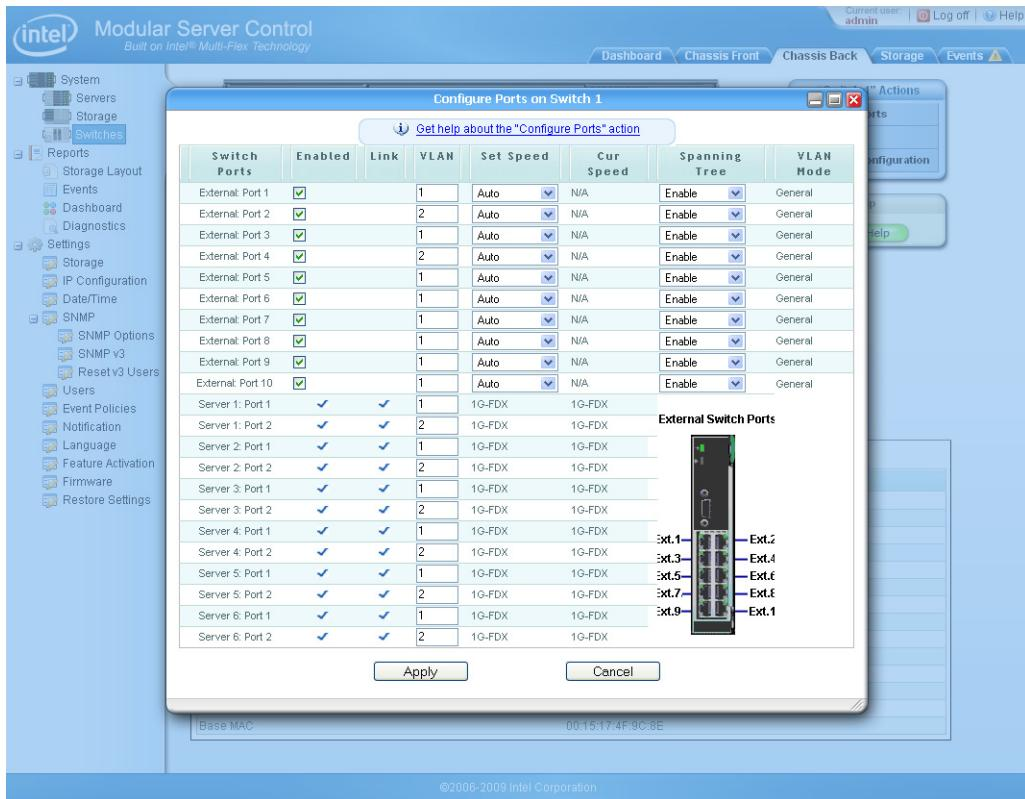

Figure 60. Configure Ports Dialog Box
- The Configure Ports action menu item enables an IT administrator to quickly and easily modify port and Virtual LAN (VLAN) settings. Figure 60 displays the Configure Ports dialog box within the Intel® Modular Server Control UI.